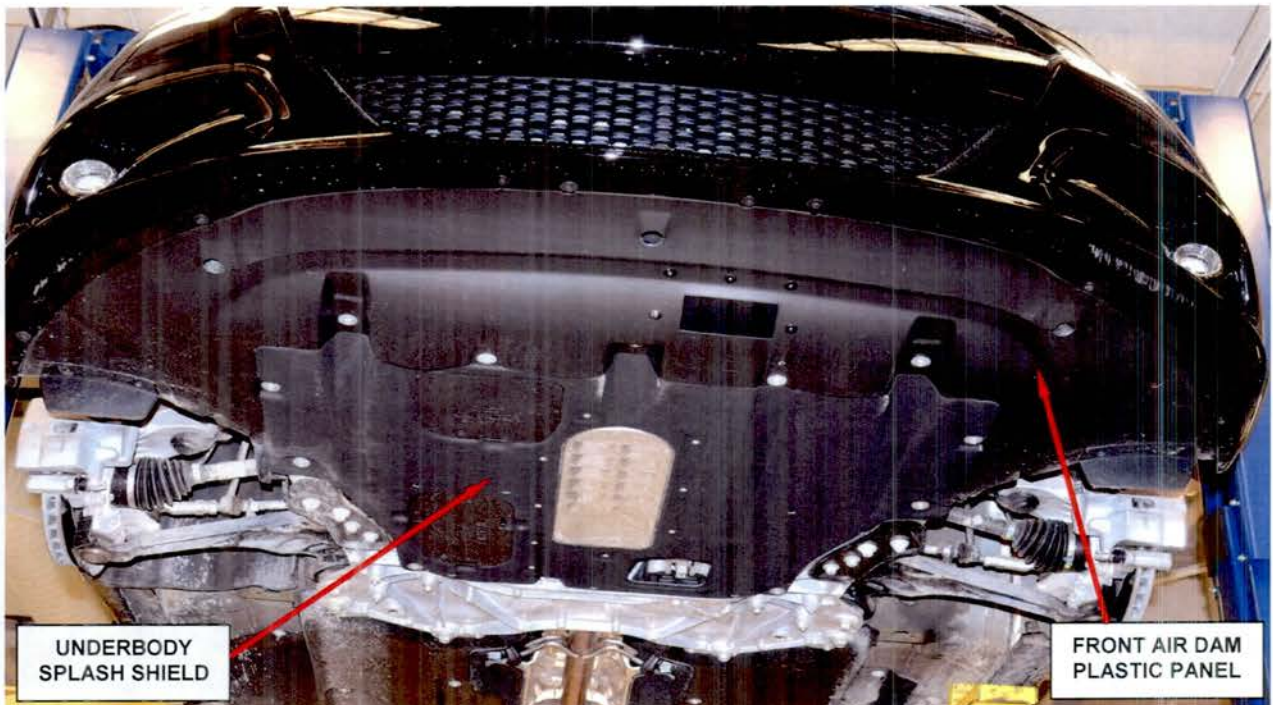

Figure 4 – Underbody Splash Shield and Front Air Dam Plastic Panel
9. Remove and save the underbody splash shield (Figure 4).
10. Remove and save the front air dam plastic panel (Figure 4).